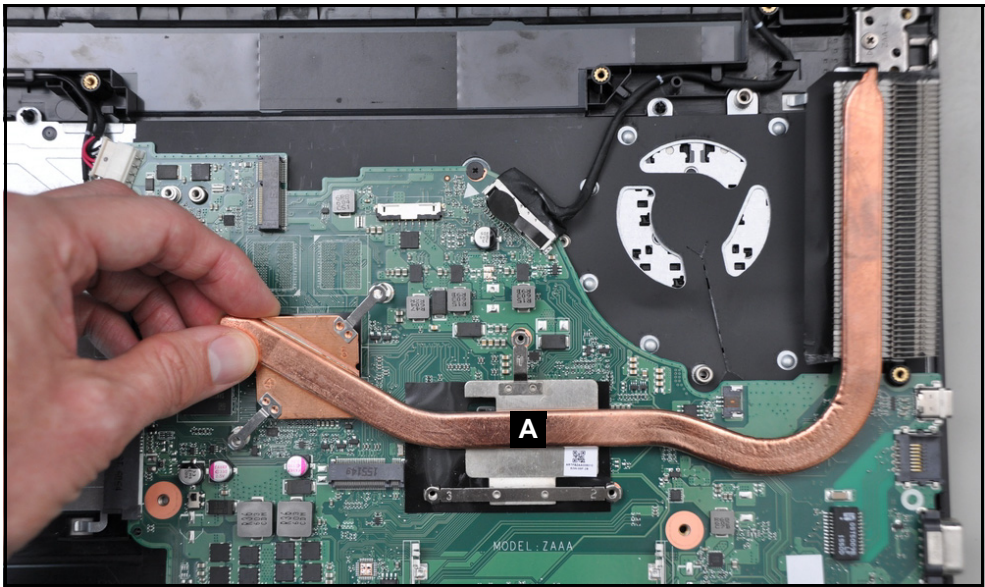

Figure 3-34. Heatsink (Discrete) Removal
3. Remove the heatsink (A) from the mainboard (Figure 3-34).